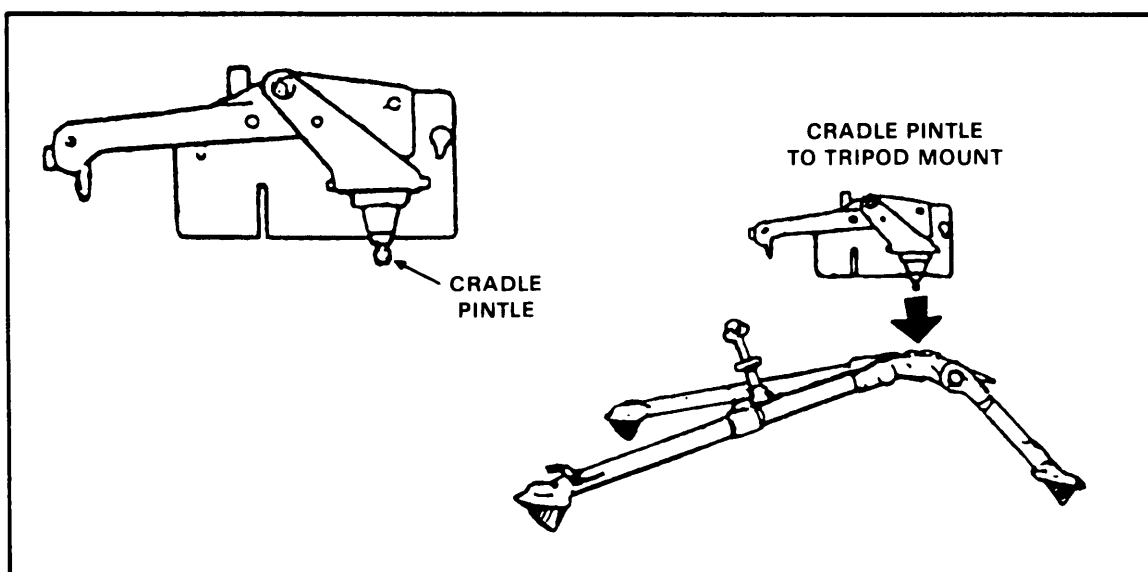

Figure 3-3. Insertion of pintle into pintle bushing.
(1) Unlock the tripod pintle lock release cam.
(2) Insert the gun cradle's pintle into the tripod pintle bushing (Figure 3-3).